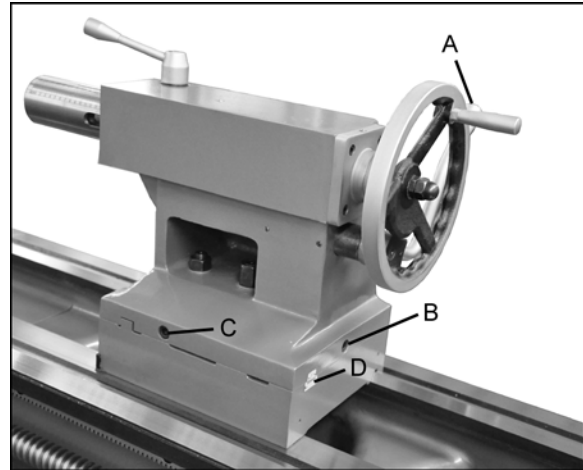

Figure 38 – Tailstock adjustments
The tailstock can be offset to cut shallow tapers up to 5° angle. See Figure 38.
3. Align the tailstock using the off-set screws at front and back (see C, Figure 38) until the tailstock is aligned.